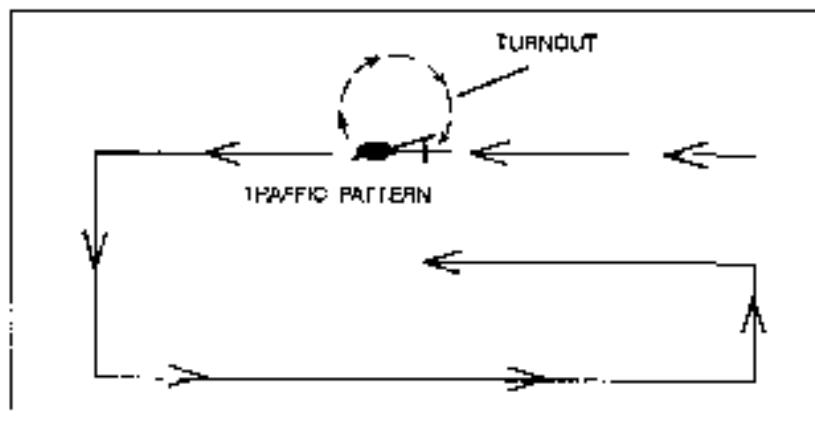

Figure 3-2. A 360-degree traffic pattern turnout.
a. Instructions for the 360-degree turnout (a 2-minute maneuver) may be issued at any point in the traffic pattern except on the final approach. When a pilot receives instructions to begin a 360-degree turnout, he turns away from the center of the landing site, makes a wide circle, and reenters the traffic pattern at about the same point from which he left it (Figure 3-2). Subsequent turnouts maybe required if adequate space is not obtained from the first one. An example of the radio dialogue between the pathfinder and the pilot is as follows: